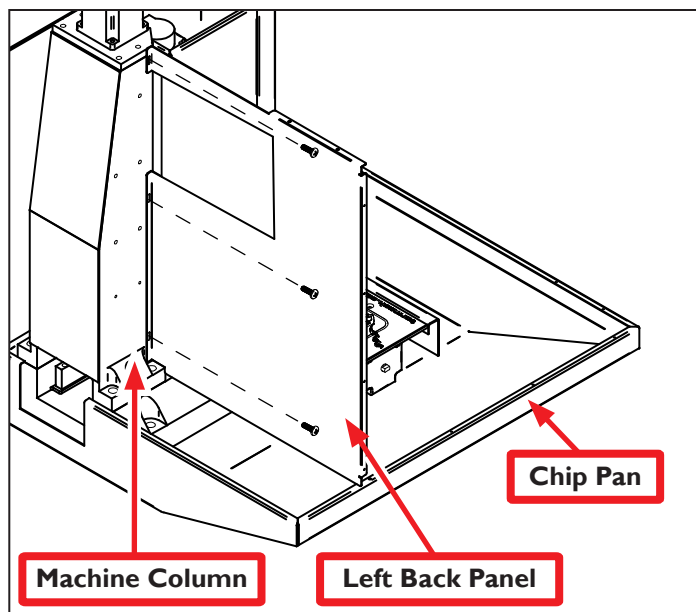

Figure 3
**NOTE:** PCNC 440 mills with serial numbers 80003-80075 require three holes to be drilled and tapped on Machine Column before installing Left Back Panel (see **Figure 3**).
5. Using #21 Drill and 10-32 Tap (included), mark, drill, and tap three holes in Machine Column in three screw locations shown in **Figure 3**.
6. Using three 10-32 x 3/8" Phillips Screws, attach Left Back Panel to Machine Column (see **Figure 3**).